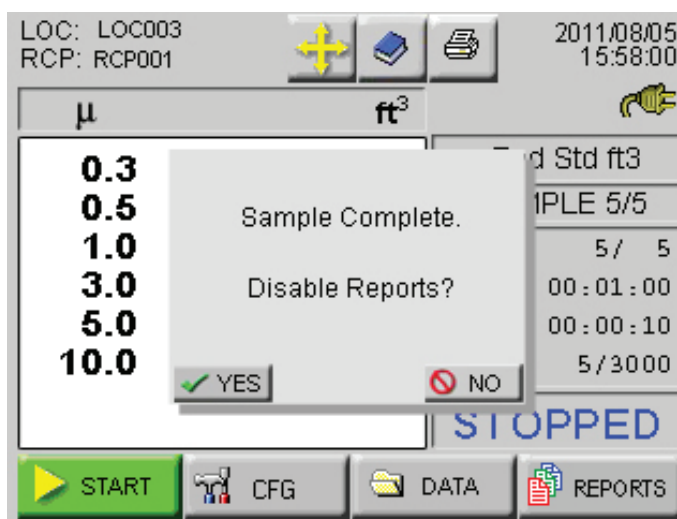

Figure 4-67 Disable Reports Prompt
- After the required number of samples have been completed, the instrument will prompt the user to disable Reports Mode as shown in Figure 4-67.